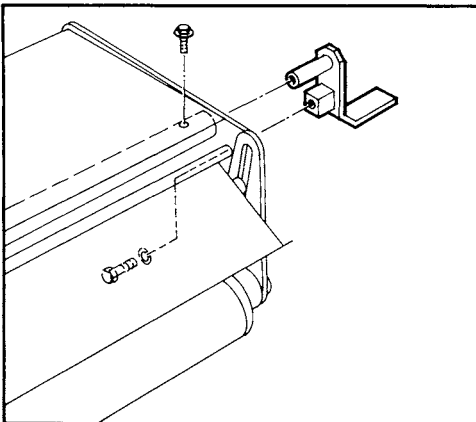

Figure 2
2. Insert tipper bracket shaft into rear crosstube (Fig. 2).